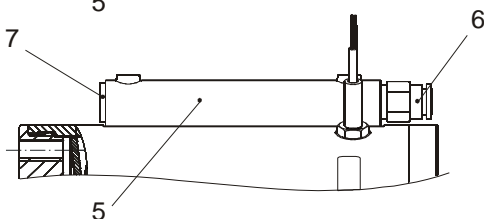

Fig. 5
3. Tighten the plug-in fitting (6) and the screw plug (7) to tightening torque (see section **5.2** Technical Data) (Fig. 5).